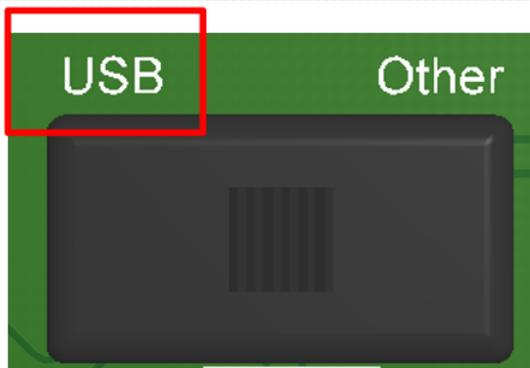

Figure 13. USB vs Other = 'USB'
- If you are going to power the programming board with USB, set the switch to “USB” as shown in Figure 13